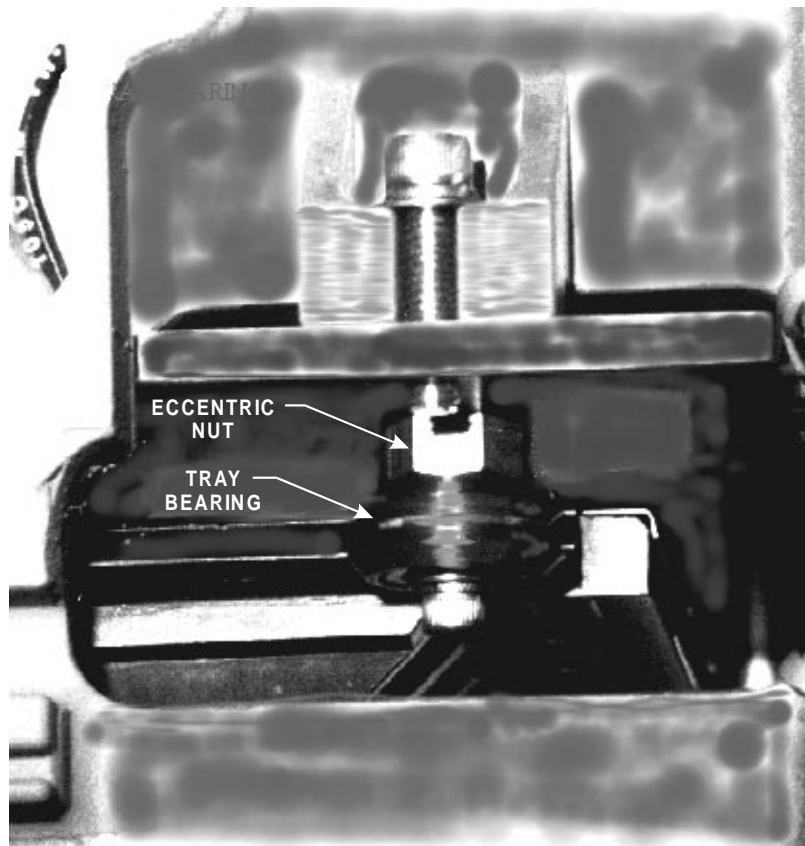

Figure 5-4 Eccentric Bearing
- b. Loosen the Allen head screw in the right side bearing. Using the Tray Wrench (P/N 371147-2) adjust the eccentric bearing for minimal endplay, without excessive tension on the tray (see Figure 5-4).